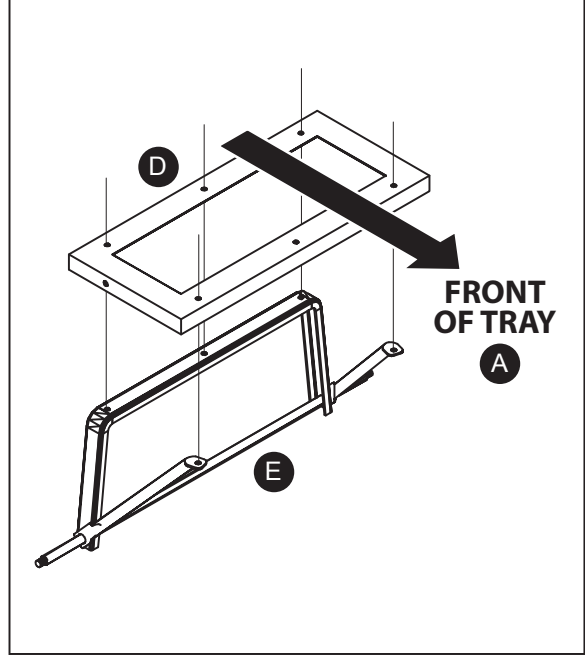

Fig. 4
4. The rear axle assembly (E) attaches to the rear section of the rear frame (D). Double check the rear frame (D) placement before assembling to the tub. The side holes on the rear frame (D) must be towards the rear of the tray (A). Please reference the front and rear labels on the backside of the rear frame (D) to confirm correct placement, as shown in Fig. 4, 5 and 6.